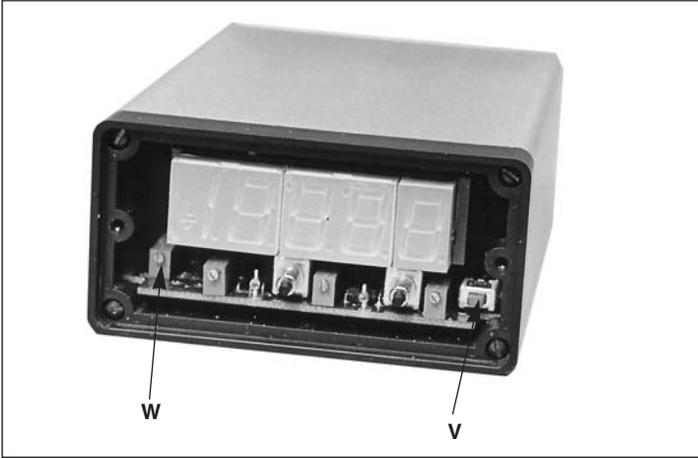

Figure 18, Shunt Cal. Switch
- Span adjustment is factory set at  $\pm .5\%$  accuracy for the gauge and transducer with matching serial numbers. The shunt cal. switch (Figure 18) can be used as a spot check for calibration settings.
- Remove the face plate. Press the shunt cal. switch ( **V** Figure 18) and compare the display value with the reference value shown on inside front cover of this instruction sheet. If the display value varies by more than the  $\pm .05\%$  from the reference value, the gauge must be re-calibrated.
- If the gauge and transducer are a matched set (check gauge serial number and transducer cord) the gauge can be re-calibrated. Press the shunt cal. switch (V) and turn the span adjustment screw (W) until display value matches the reference value.